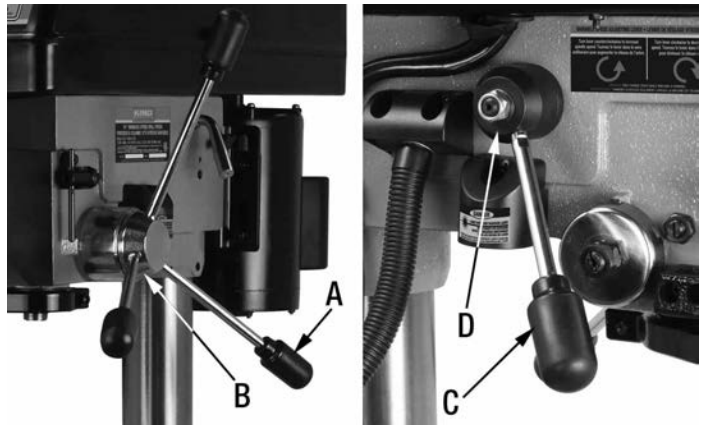

FIGURE 10
- 1) Screw the 3 downfeed handles (A) Fig.10 to the feed hub (B) as shown.
- 1) Screw the variable speed handle (C) Fig.10 to the variable speed hub (D) as shown.